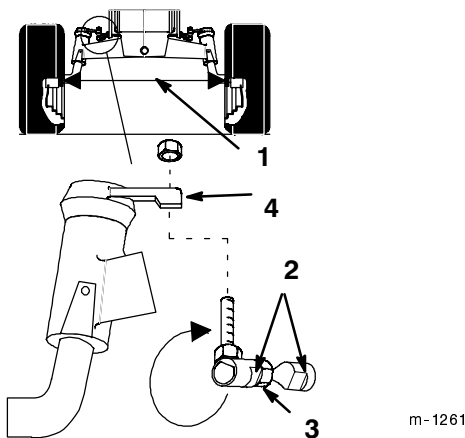

Figure 32
Maintain toe-in of the front wheels as specified. If uneven tire wear, lawn scuffing or hard steering develop adjustment may be required. Check the toe-in after every 100 operating hours or yearly, whichever occurs first (Fig. 32).
3. Measure, between the rims, at spindle level, in the front and rear of the wheels (Fig. 32).
4. Hold flats on ball joint to align with flats on tie rod and tighten jam nut (Fig. 32).
2. Remove ball joint from one steering lever (Fig. 32).